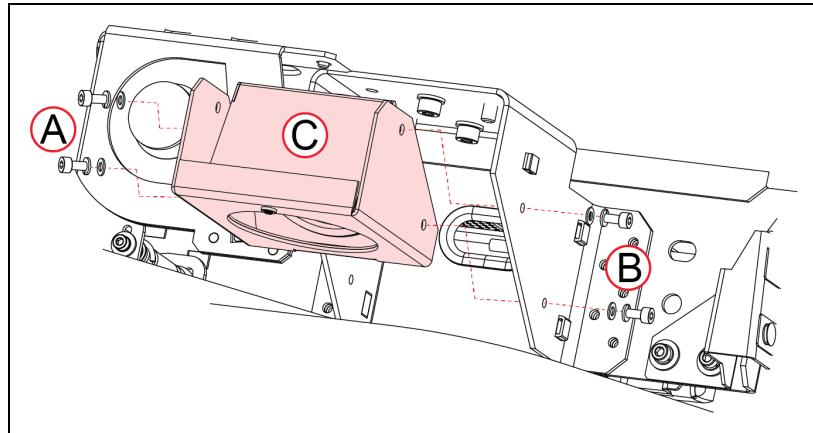

Figure 9-12 Removing the LD-250 Speaker Assembly.
6. Use a 4 mm hex driver to remove the two pairs of M5 screws and washers [(A) and (B) in Figure 9-12] that retain the loudspeaker assembly to its mount.
Carefully pull out the speaker assembly [(C) in Figure 9-12] until you can reach and disconnect both speaker wires.
M5 screws and washers [(A) and (B) in Figure 9-12].